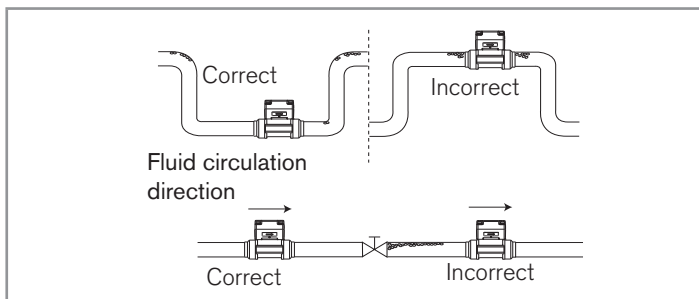

Fig. 6 : Air bubbles within the pipe
- Prevent the formation of air bubbles in the pipe in the section around the device (Fig. 6).